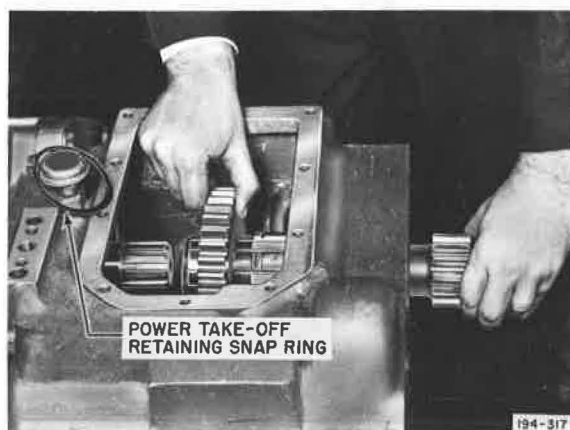

Figure 5-130. Removing Rear Countershafts
9. Remove the three rear countershafts from case through rear bearing cover openings. While withdrawing the lower and right-hand countershafts, at the same time, slide the power-take-off gear with its front snap ring off of shaft. See Figure 5-130. Where oil slinger is incorporated, instead of power-take-off gear, slide oil slinger and oil slinger retaining spring with its front snap ring off of shaft.